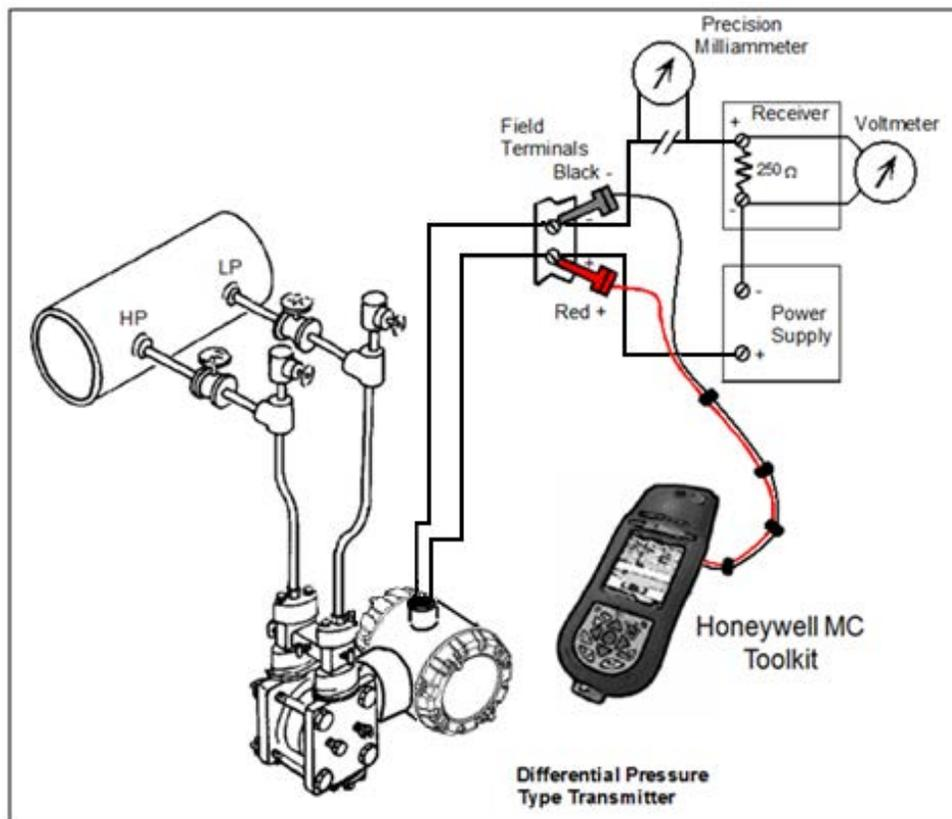

Figure 15 – Current Loop Test Connections
1. Refer to Figure 15 for test connections. Verify the integrity of electrical components in the output current loop.
1. Connect a current meter or voltmeter as shown in Figure 15 to monitor the PV output of the Transmitter.